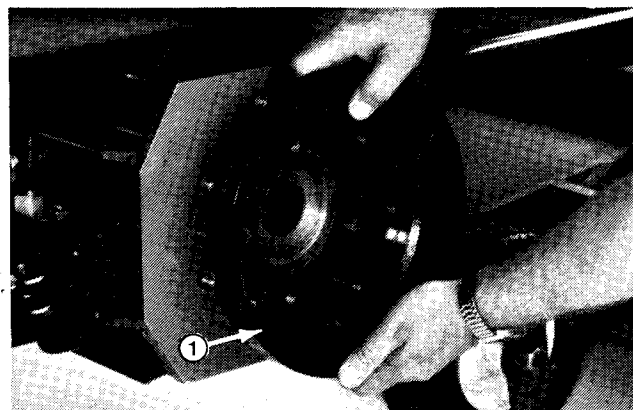

Figure 28
4. Remove two (2) capscrews and lockwashers securing brake housing to frame. Remove brake housing (Fig. 28).